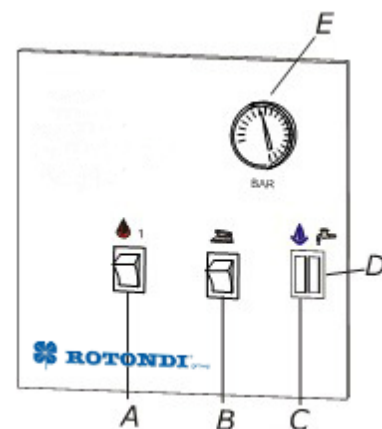
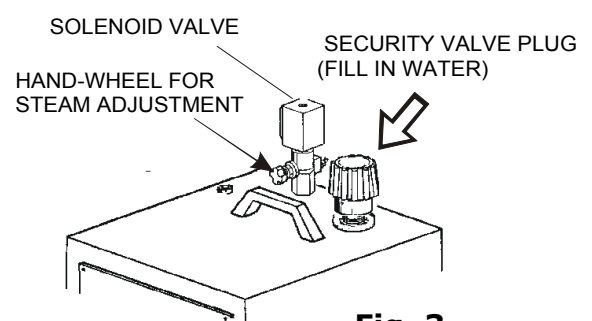

Fig. 2
Fig. 3
1. Unscrew the security valve plug (fig. 3), fill the boiler with water (fig. 3) till overflow or at pleasure. Take the plug by the plastic part and screw it again: do not tighten too much or its gasket might get spilt.
3. Switch on the boiler (fig. 2 A), the iron (fig. 2 B) and adjust the thermostat (fig. 5) on "cotton".
Wait for the boiler lamp to switch off (fig. 2 C). At this point seize the iron by cork handle and press red button 3 or 4 times (fig. 6), so that steam comes out: this operation must be carried out in order to heat up the tubes which take steam to the iron.
4. In this way you prevent also the falling of small drops of water on garments. To adjust steam flow, you must work on the hand-wheel for steam adjustment (fig. 3). During ironing operation, the boiler lamp switches on and off (fig. 2 C).
3. Empty the boiler only when it is switched off and cold (with no pressure) less than 0,5 Bar (fig.2 E). For carrying out this operation, wear gloves against possible burns.
4. **Never replace the security valve plug (fig.3) with other types of plug. P.S. the security valve plug is set on 4,5 BAR and it has the function of a security valve.**
5. If you work on a non-vacuum board, some circular water spots might form because of condensed steam. To get round this problem, put a felt under the usual padding and adjust the hand-wheel for steam regulation on minimum (fig. 3).
During use, if steam flow decreases considerably and then ends definitely, it means that there is no more water in the boiler. So Alba 5 has to be switched off by disconnecting the plug; rotate the valve plug (fig. 3) of 360° and wait for steam to go out completely. Unscrew the valve plug with care and wait some minutes. Then fill the boiler with water (fig. 3). Screw the valve plug again, connect the plug and wait for the boiler lamp to switch off (fig. 2 C). Now the iron is ready again.
3. Replace the security valve plug every 2500 hrs. of working or maximum 3 years (fig. 3). For carrying out this operation, the machine has to be switched off and cold.
3. steam tube and steam gun cable once they seem sp  (fig. 3).